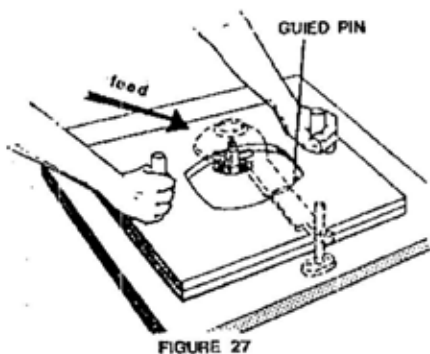

FIGURE 27
1. with a firm grip, ease the edge into the cutter (s) until stopped by the collar shown in Figure 27.